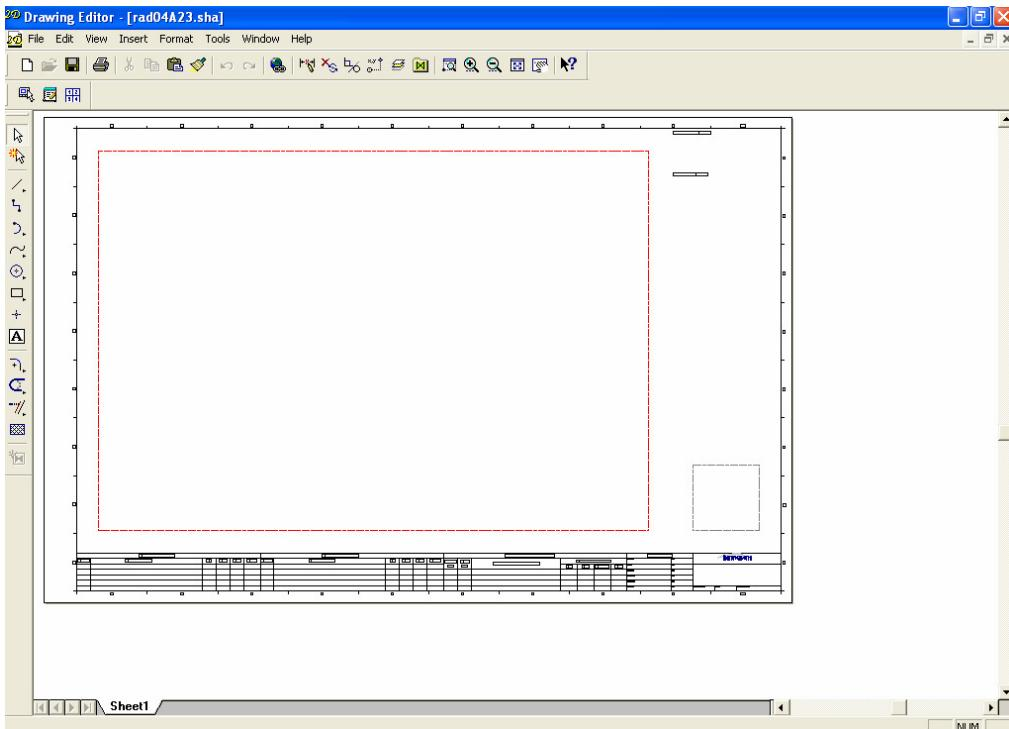

Figure 14: 2D Drawing Editor Window
2. The **2D Drawing Editor** window appears. The **2D Drawing Editor** window displays the template with the view drawn in it as shown in Figure 14. The view in the template has a property set that causes the view to be hidden on the template. To locate the view on this template, move the mouse pointer around the perimeter of the rulers on the template until the view is visible. Right-click the view and click the **Properties** command.